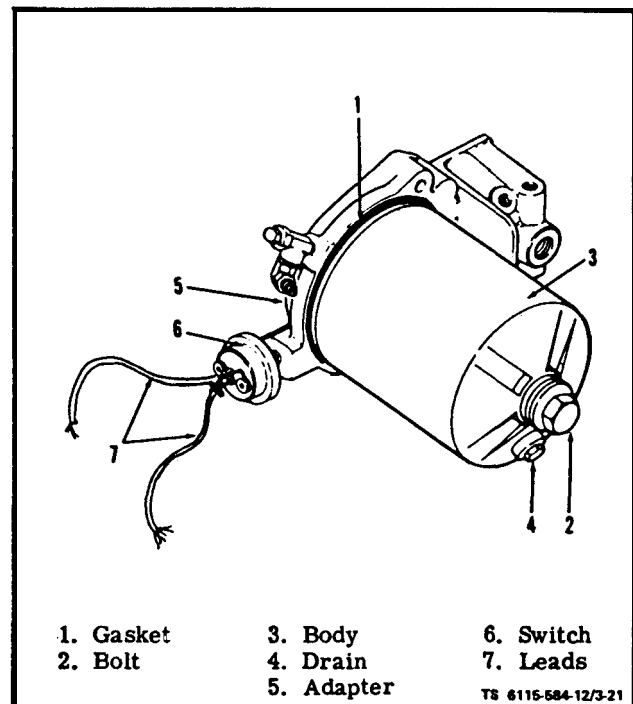

Figure 3-21. Oil filter and Oil Pressure Switch
e. Oil Filter Assembly (see figure 1-1). Inspect oil filter assembly for dents or other physical damage. Check for leaks especially at gasket (1, figure 3-21) between body (3) and adapter (5) and between bolt (2) and body (3). Check to see that drain plug (4) is securely in place and does not leak.
f. Oil Pressure Switch (see figure 3-21). Inspect oil pressure switch (6) for dents or other physical damage. Check that switch is securely mounted to oil filter adapter (5). Check for leaks where switch (6) attaches to adapter(5). Check that both electrical connections (7) to switch (6) are tight and free of corrosion.